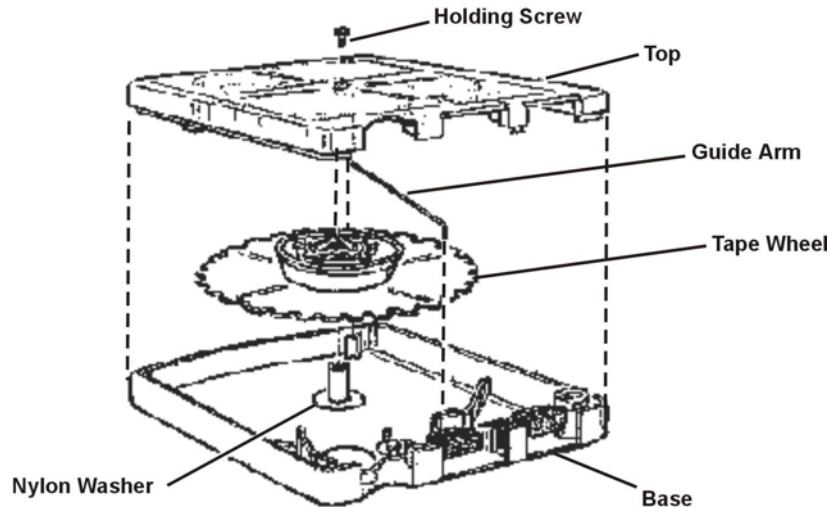

Figure K-12. Exploded View of Tape Cartridge, Reel, and Cover
(1) Carts are used in many other applications. Nevertheless, a thorough understanding of the situations discussed will enable you to apply tape cartridges to most situations you are apt to encounter. It is important to understand the structure of the tape cartridge. The cartridge itself breaks down into four major parts: the casing (or actual cartridge), reel and hub, guide wires, and lubricated tape (Figure K-12). The casing includes a corner post and a center post.
(2) The center post obviously is the point where the hub or the reel rests on a Teflon washer that aids in movement. The corner post, also made of Teflon, is situated on the same end of the cartridge, which, while in use, houses the pinch roller. These two (the corner post and the pinch roller), located on opposite sides of the cartridge along with the pads, provide the tape with a transport across the heads and back to the center post or hub. The cartridge always uses a continuous loop of tape that is drawn from the center post, past the corner post, across the pads, around the pinch roller and is returned to the outside of the loop. There are two types of loops for cartridges.